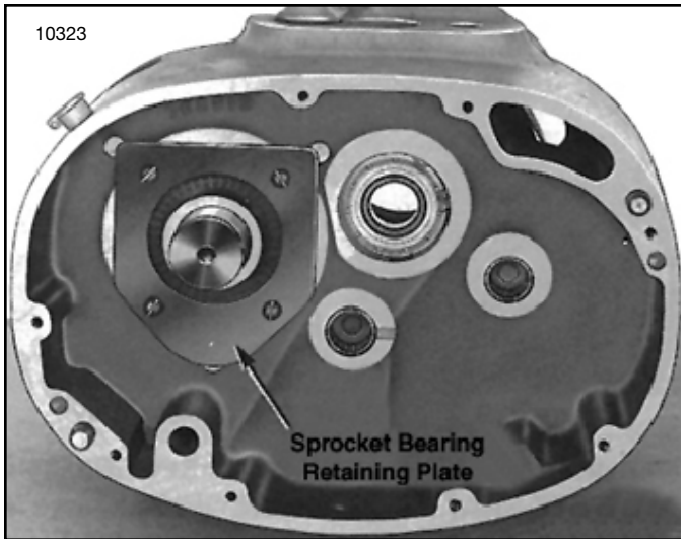

Figure 7-11. View of Sprocket Bearing Retaining Plate
- (1) Remove acorn nuts holding brake cover and remove brake cover (fig. 7-11).
- (2) Disconnect wire nuts on brake coil leads.
- (3) Remove brake mounting plate screws (fig. 7-11) and lift brake assembly off to gain access to the motor mounting bolts.
- (2) Unscrew four fillister head machine screws securing sprocket bearing retaining plate and remove plate (fig. 7-11). Remove and discard ring gasket from groove around bearing.